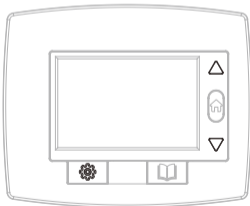

Fig.1
5. Press the key "  " to save the setting (Fig.1)